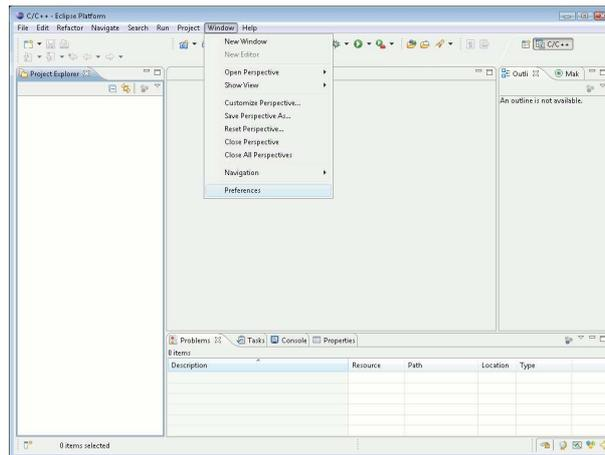
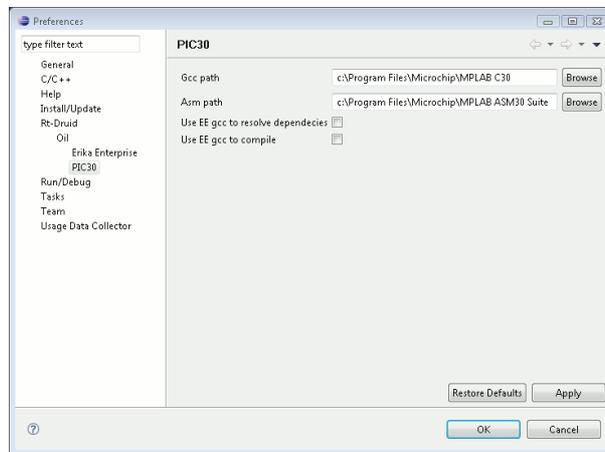

Figure 4.3: Go to the “Preference” menu.
Figure 4.4: Select paths for compiler and assembler.
4. Before being able to correctly build your application, you should set the path to the Microchip C30 compiler and the MPLAB ASM30 assembler programs. For doing so, please go to the “Preference” menu, as shown in Figure 4.3, and find the “RT-Druid/Oil/PIC30 Configurator” form as depicted in Figure 4.4. The first
**Warning:** The install directories specified in the two textboxes of Figure 4.4 does *not* include the `bin` directory!
**Warning:** If you are using a Student Edition of the Microchip C30 compiler with an **expired license**, please check the “Use EE gcc to resolve dependencies” checkbox in Figure 4.4.